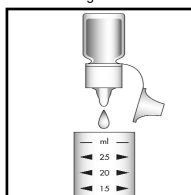

Figure 2
2. Add 10 drops of S-9001 Activator Solution (fig. 2). Cap the sample cup and shake it to mix the contents. Wait **4 minutes**.
3. Add 5 drops of S-9000 Neutralizer Solution (fig. 2). Cap the sample cup and shake it to mix the contents. Wait **1 minute**.